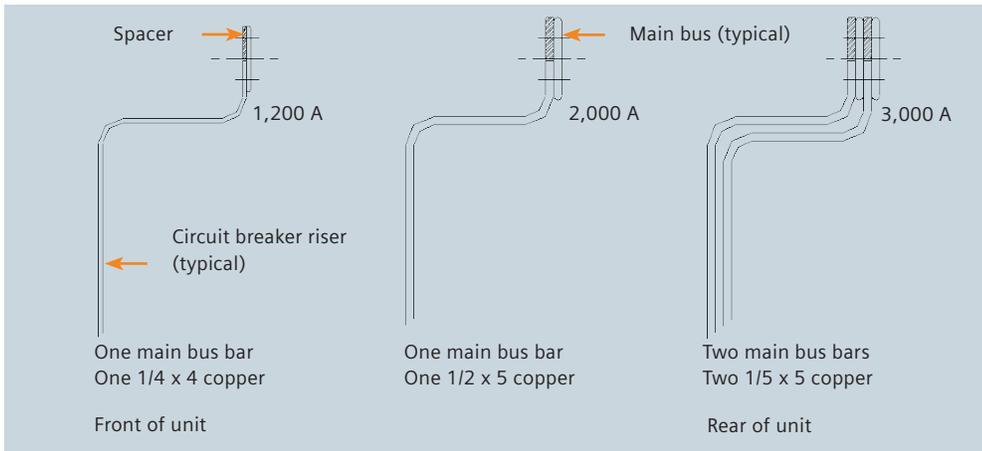

Figure 17: Main bus joints connection configurations
- C. Spacers are required at certain bus joints to insure the cross sectional area of the joint. The conditions where these spacers are required vary with the type of bus joint (refer to Figure 17: Main bus joints connection configurations).